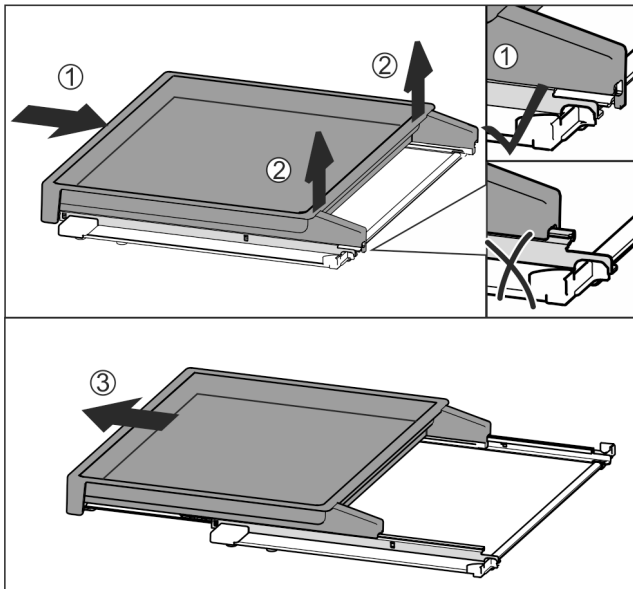

Fig. 96
- ▶ Slide the pull-out board all the way in Fig. 96 (1).
- ▶ Release the clips at the back Fig. 96 (2).
- ▶ Remove the pull-out board from the front Fig. 96 (3).